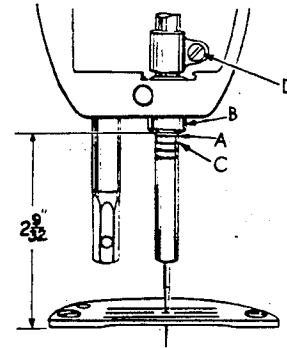
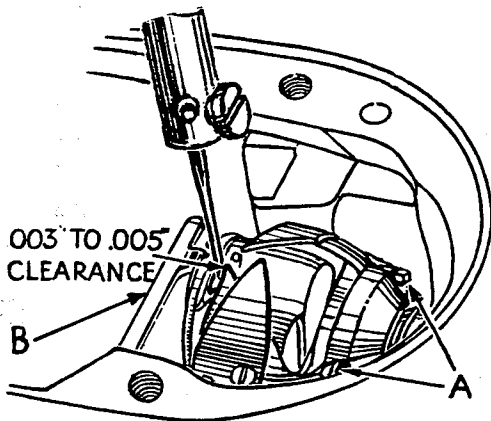

Fig. 13
Fig. 14
The lower needle bar bushing, the one to which the needle bar is timed, is set at the factory, the distance from the bottom of bushing (B, Fig. 13) to the throat plate seat is 2-9/32 inches.
The illustration (Fig. 13) shows the proper setting of the needle bar on Style 61400 A using extra short needles Types 183GNS or 183GPS. The setting of the needle bar on Style 61400 B using short needles Types 180GNS or 180GPS is accomplished in the same manner except that the lower pair of timing marks on the needle bar is used.
Tip the machine back so that it rests on the rest pin in the table top. Insert a new needle. Loosen the two screws and swing out the bobbin case positioning finger (B, Fig. 14). Loosen the three set screws (A) in the hook and hold the hook and bobbin case holder in such a position as to prevent interference with the needle. Turn the handwheel in operating direction until the needle bar is at its lowest position, continue to turn the handwheel until the needle is ascending and the lowest timing mark of the pair used (C, Fig. 13) in setting the needle bar is even with the lower edge of the needle bar bushing (B).